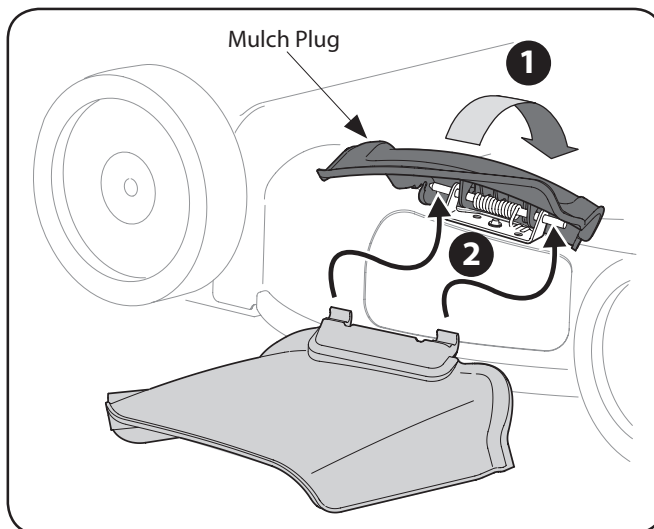

Figure 3-8
- On the side of the mower, lift the mulch plug. See Figure 3-8.